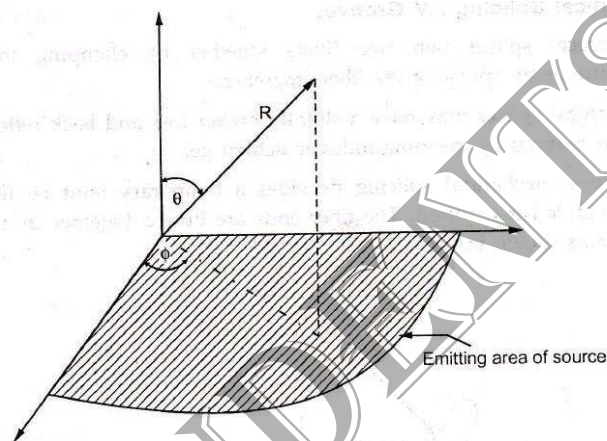

Fig. 4.3.1 Dimensional spherical co-ordinate system
- x Fig. 4.3.1 shows three dimensional spherical co-ordinate system for characterizing the emission pattern from an optical source. Where the polar axis is normal to the emitting surface and radiance is a function of  $\theta$  and  $\phi$ .